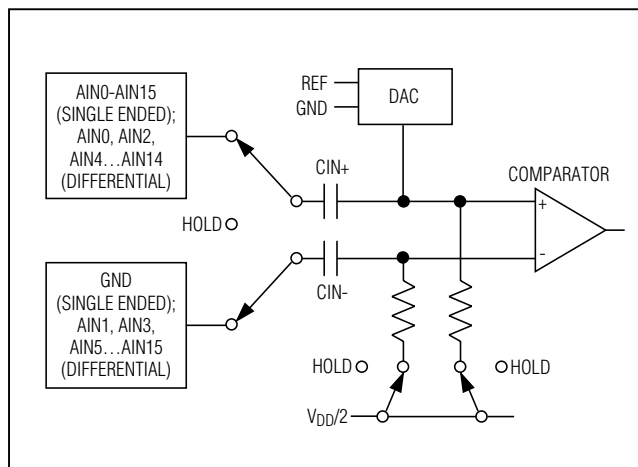

Figure 3. Equivalent Input Circuit
**Note 6:** See Figure 3 (Input Equivalent Circuit) and the Typical Operating Curve in the *Sampling Error vs. Source Impedance* section.
The MAX1026/MAX1028/MAX1030 use a fully differential ADC for all conversions. The analog inputs can be configured for either differential or single-ended conversions by writing to the setup register (see Table 3). Single-ended conversions are internally referenced to GND (see Figure 3).
The equivalent circuit of Figure 3 shows the MAX1026/MAX1028/MAX1030s' input architecture. In track mode, a positive input capacitor is connected to AIN0–AIN15 in single-ended mode (and AIN0, AIN2, AIN4...AIN14 in differential mode). A negative input capacitor is connected to GND in single-ended mode (or AIN1, AIN3, AIN5...AIN15 in differential mode). For external track-and-hold timing, use clock mode 01. After the T/H enters hold mode, the difference between the sampled positive and negative input voltages is converted. The time required for the T/H to acquire an input signal is determined by how quickly its input capacitance is charged. If the input signal's source impedance is high, the required acquisition time